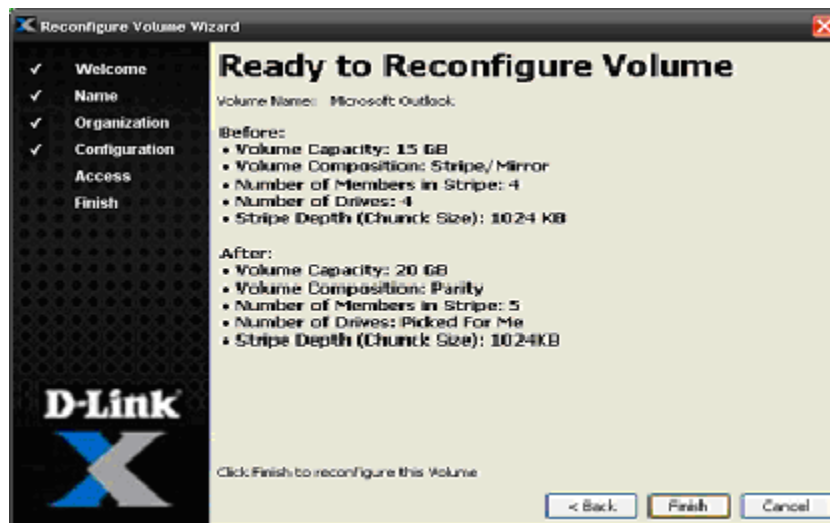

Figure 4-27. Ready to Reconfigure Volume Screen
3. See section 4.2.2 to complete this procedure (including specifying the volume composition, capacity, stripe width, drive, and chunk size) and record your settings in Table C-1. The Ready to Create Volume screen shown in Figure 4-27 allows you to confirm your selections for the reconfiguration.